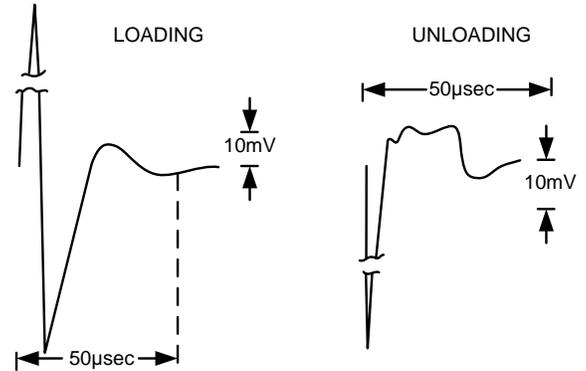

Figure 5-8. Transient Recovery Time, Waveforms
- Adjust 25K potentiometer until a stable display is obtained on oscilloscope. Waveform should be within the tolerances shown in Figure 5-8 (output should return to within 10 mV of original value in less than 50 microseconds).